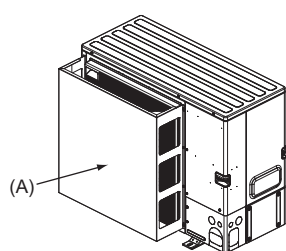

Fig. 2-5
- (2) Install an optional air protection guide if the unit is installed in a location where strong winds from a typhoon, etc. may directly enter the air outlet. (Fig. 2-5)